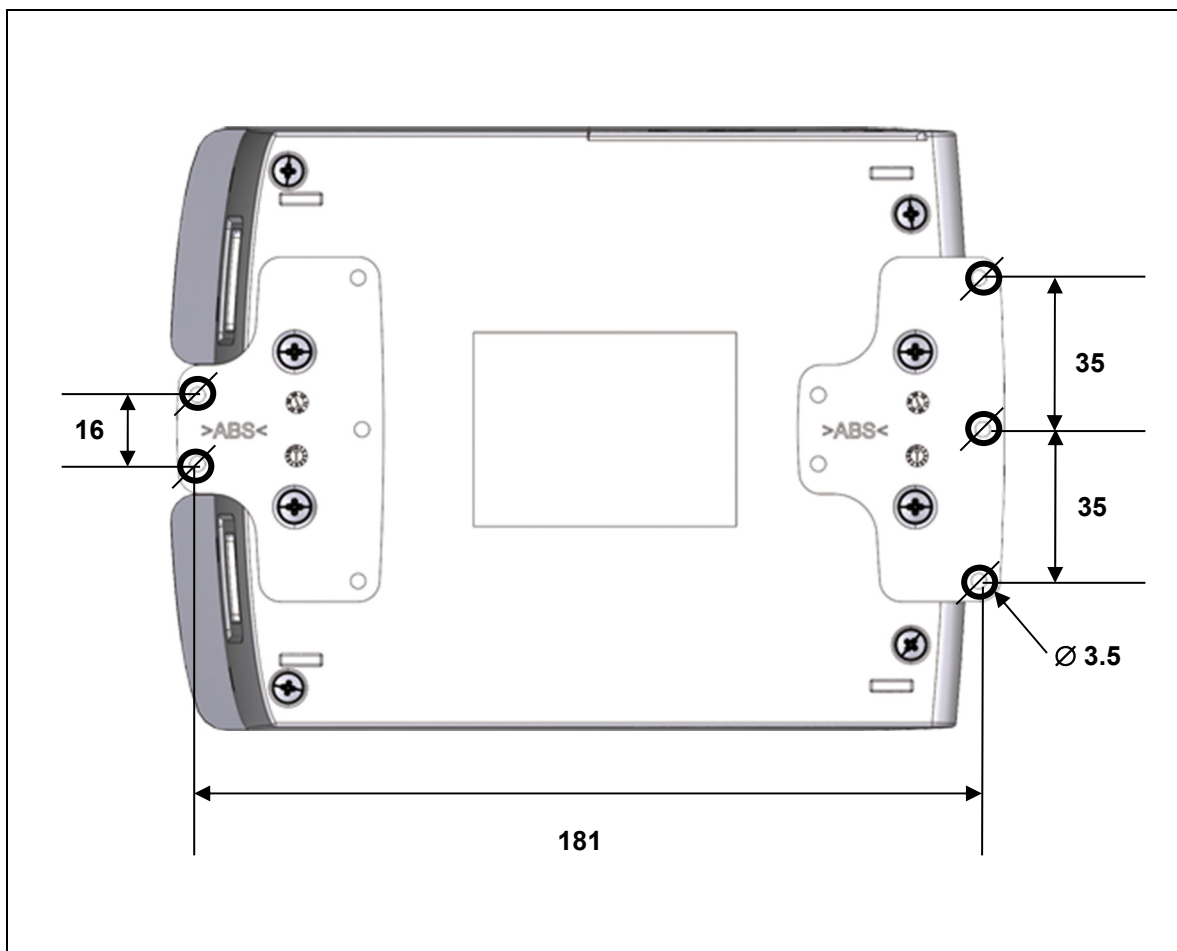

Figure 6 Example: Mounting points on the HE-300 SMPS power supply (in mm)
- ▶ The drilling dimensions shown in Figure 6 only illustrate an example and are not necessarily authoritative for all applications.